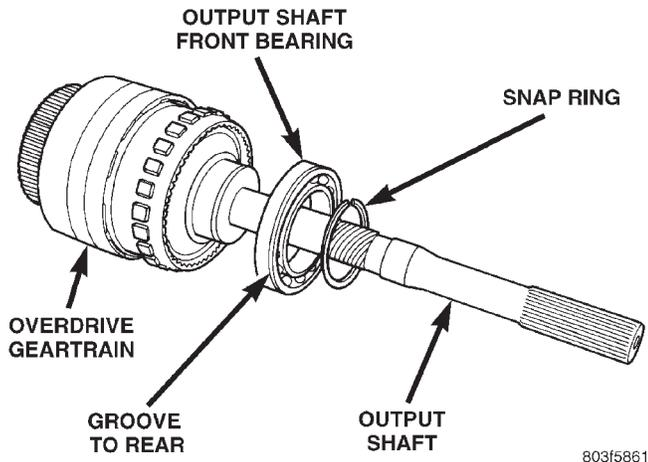

Fig. 64 Output Shaft Front Bearing
(1) Remove overdrive unit from the vehicle.
(2) Remove overdrive geartrain from housing.
(3) Remove snap ring holding output shaft front bearing to overdrive geartrain (Fig. 64).
(4) Pull bearing from output shaft.
- (1) Place replacement bearing in position on geartrain with locating retainer groove toward the rear.
- (2) Push bearing onto shaft until the snap ring groove is visible.
- (3) Install snap ring to hold bearing onto output shaft (Fig. 64).
- (4) Install overdrive geartrain into housing.
- (5) Install overdrive unit in vehicle.